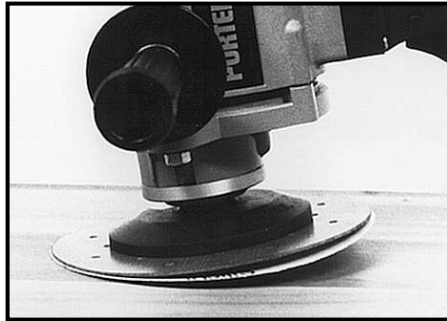

Fig. 7
3. Hold sander firmly by the rear and auxiliary handles, making sure sanding disc is clear of work and foreign objects. Start sander and lower at an angle so that approximately 1" to 1¹/₄" of the sanding disc contacts the work (see Fig. 7). Too great an angle may result in gouging or snagging the work, while too small an angle results in extreme difficulties in controlling the sander.